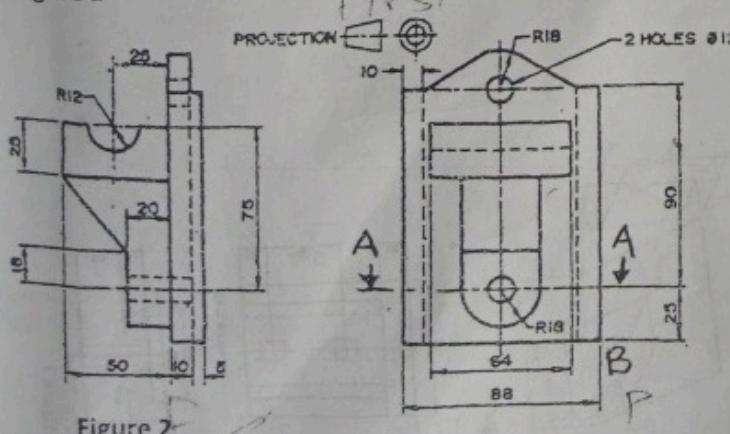

Figure 2
2. Make isometric drawing of the views in Figure 2, such that point B is the lowest point on the drawing.
b. Draw sections A-A as shown in Figure 2.